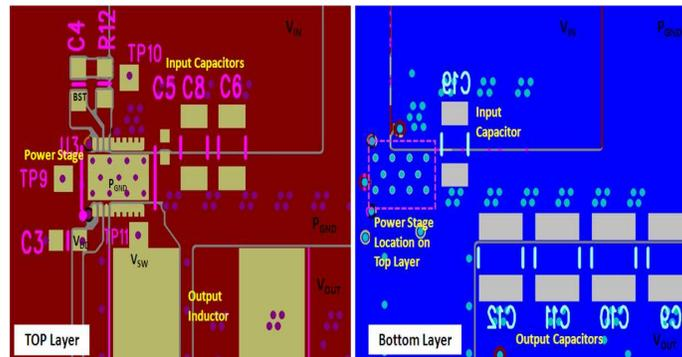

Figure 17. Recommended PCB Layout (Top Down View)
- The placement of the input capacitors relative to  $V_{IN}$  and  $P_{GND}$  pins of CSD97394Q4M device should have the highest priority during the component placement routine. It is critical to minimize these node lengths. As such, ceramic input capacitors need to be placed as close as possible to the  $V_{IN}$  and  $P_{GND}$  pins (see Figure 17). The example in Figure 17 uses 1 x 1 nF 0402 25V and 3 x 10  $\mu$ F 1206 25 V ceramic capacitors (TDK part number C3216X5R1C106KT or equivalent). Notice there are ceramic capacitors on both sides of the board with an appropriate amount of vias interconnecting both layers. In terms of priority of placement next to the Power Stage C5, C8 and C6, C19 should follow in order.
- Use the smallest drill size allowed in your design. The example in Figure 17 uses vias with a 10 mil drill hole and a 16 mil capture pad.